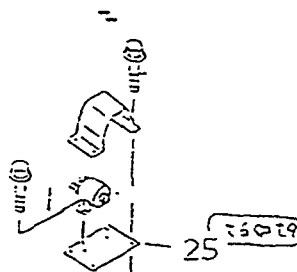

Fig. 53
- ⑳ Change of thickness of heater relay mounting plate on HD785-3 (Fig. 53)